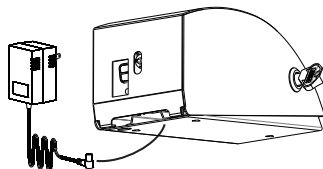

Fig. 3
2. Before fixing the back plate to the wall, insert the adapter plug of the transformer either through the hole in the back plate or into the slot between the back plate and the bottom of the housing (Fig. 3). Place the plug in the socket on the control box (Fig. 4).